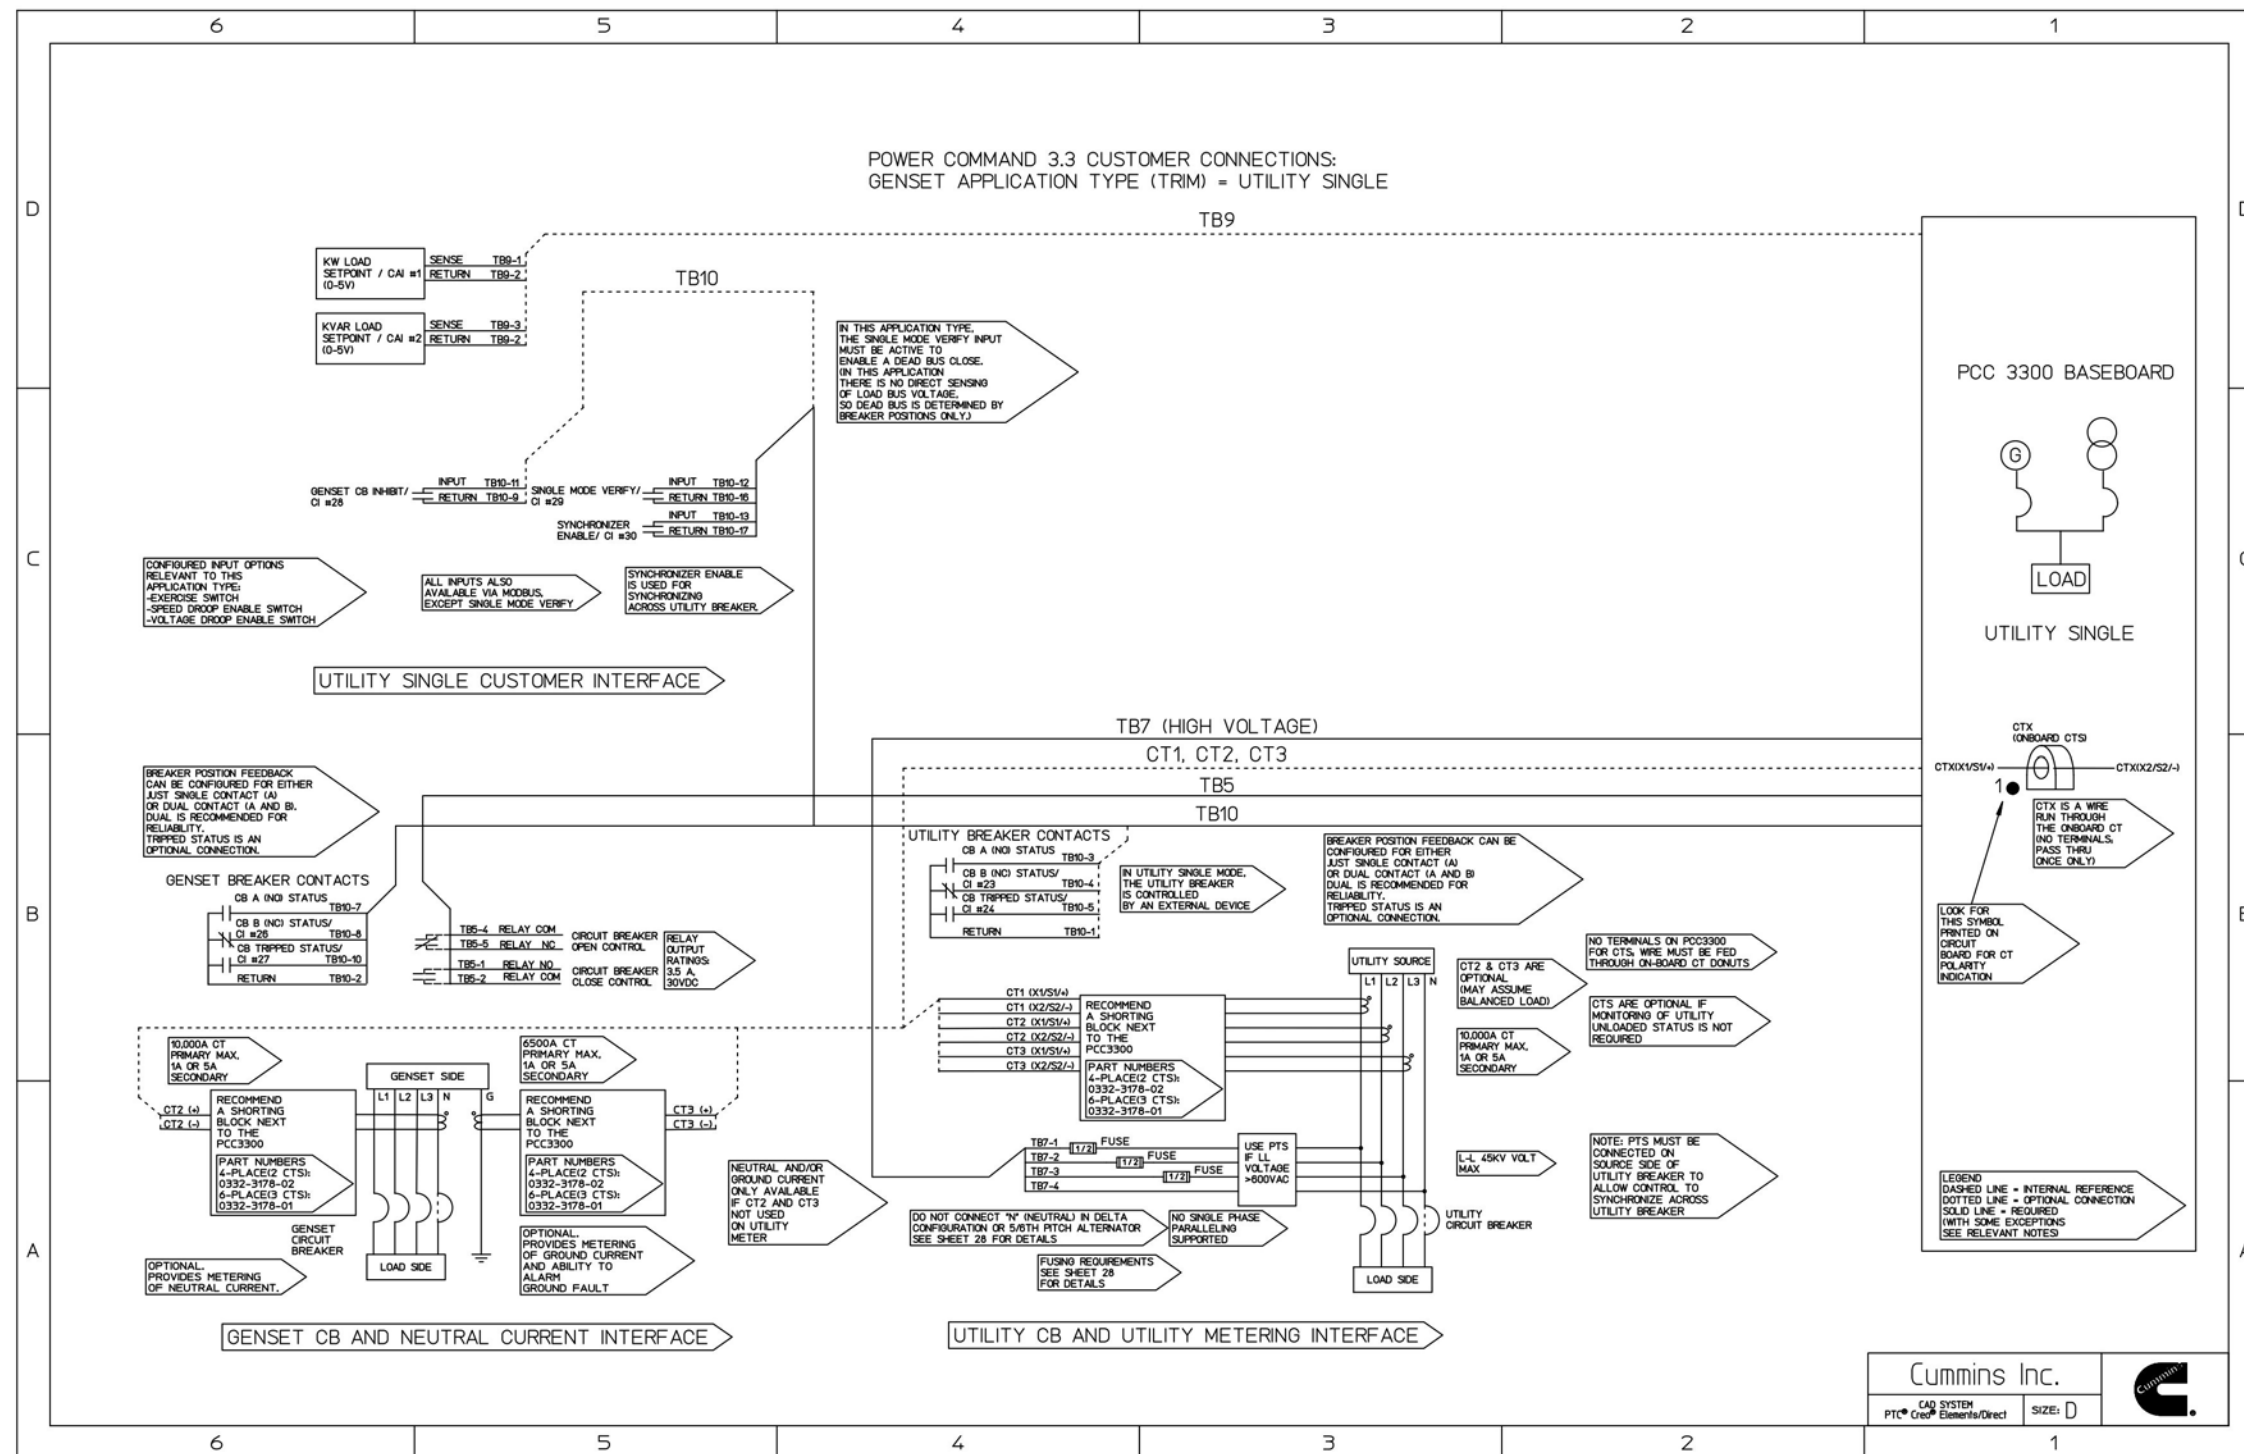

FIGURE 79. POWERCOMMAND 3.3 PARALLELING CONNECTIONS - UTILITY SINGLE
- Figure 79. PowerCommand 3.3 Paralleling Connections - Utility Single 134